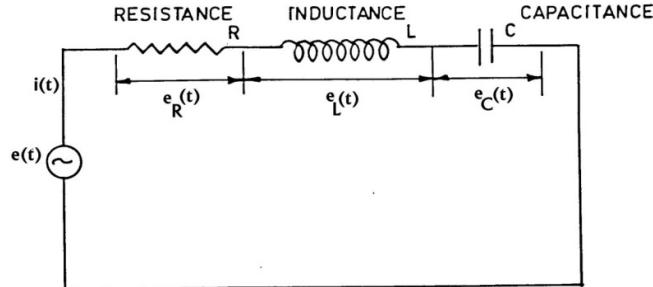

Fig.4.10.
**Q.4.3.** Find system transfer function between function between the capacitance voltage to the source voltage in the following RLC circuit as shown in Fig.4.10.